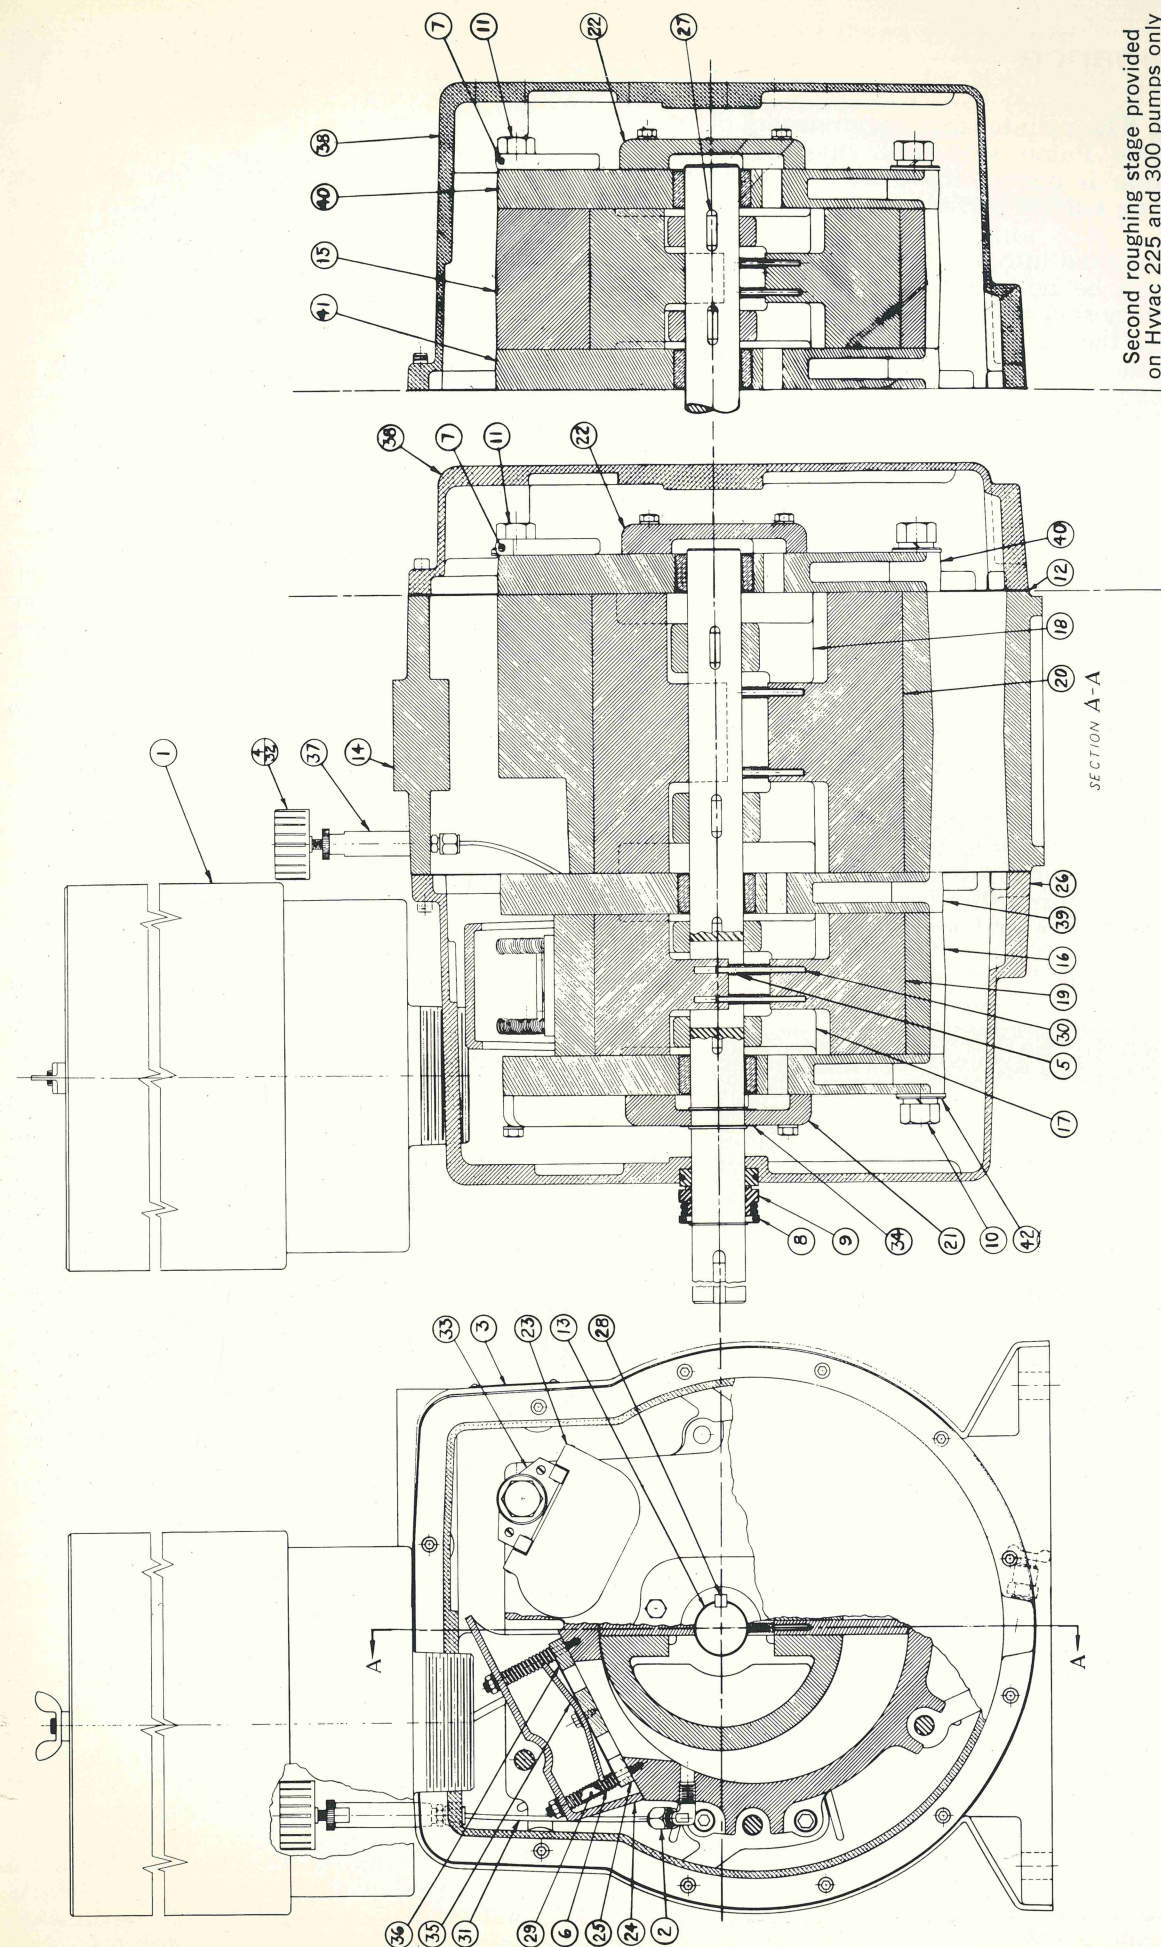

Fig. 5—Sectional view of the Hyvac 150, 225, and 300 pumps
7.4 Shaft Seal Replacement: The seal on the pump shaft, symbol (13) in Fig. 5, consists of a "Truarc" ring (8), a thrust washer and the shaft seal, in that order. Before re-assembling or making a replacement, apply a thin film of pump oil to the pump shaft. Also apply the same amount of oil to the inner surface of the shaft seal. Replace the shaft seal carefully so as not to damage the inner surface of the rubber seal ring. Push the seal back into the cavity until it contacts the "O" ring. Replace the thrust washer, and force the washer and spring over the groove in the shaft. Finally, replace the "Truarc" ring.
7.5 Repairs: Fig. 5 shows cross sectional views of the Hyvac Pump. Table IV lists the part number for each component of the pump. When ordering replacement parts, please give the exact part number. For repairs to the pump other than the replacement of the shaft seal, it is strongly recommended that the pump be returned to the factory, especially when adequate shop facilities are not available. If operated according to instructions, any Hyvac pump will provide years of satisfactory service. If trouble develops, turn off the pump at once. Only a qualified technician who has available the finest machine shop facilities should attempt to service the pump, using the drawings and charts provided. If the difficulty cannot be corrected immediately, contact your nearest Cenco Branch office or the Service Department, giving all symptoms of the malfunction and wait for further instructions. *Do not return the pump or any of its components without written authorization from Cenco.*